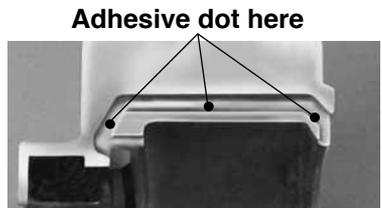

Figure 26
10.4 Put three dots of adhesive in the groove as shown in Figure 26.